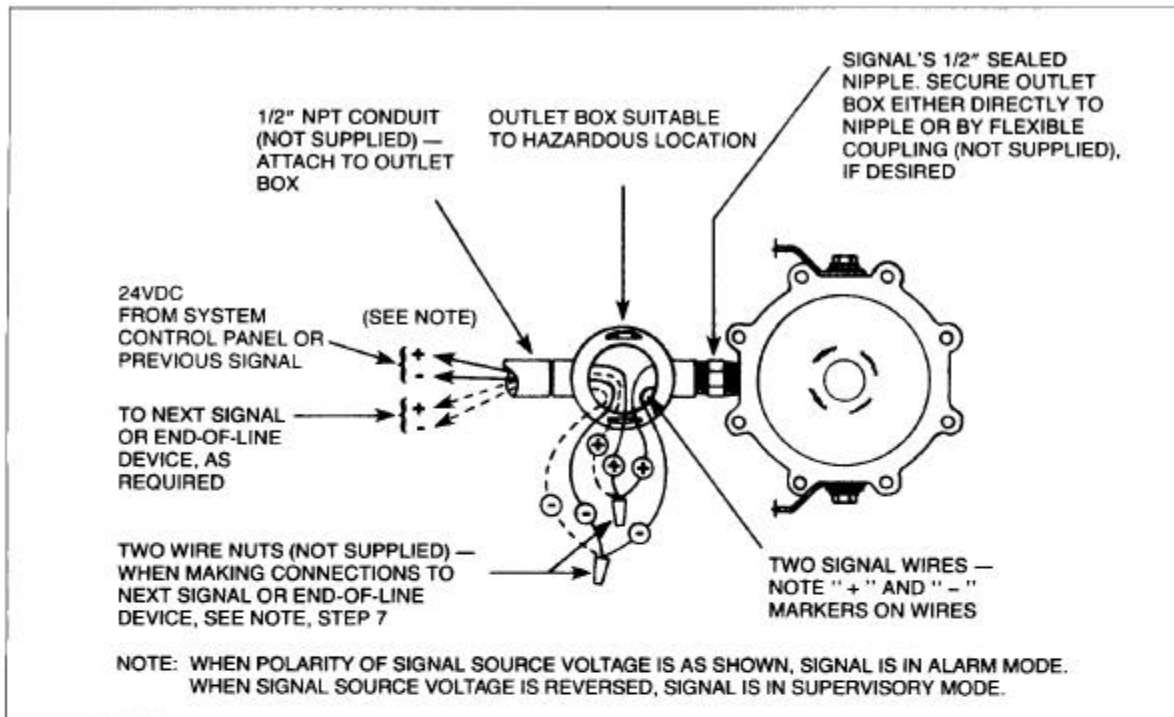

Figure 2. Wiring Installation and Connections
**6. Install Wires.** Refer to Figure 2. Remove cover from the conduit outlet box (not supplied). Note that the outlet box must be suitable for use in the hazardous location. Feed the two power supply wires from the system control panel or previous signal and the two wires to next signal or end-of-line device through a 1/2" NPT conduit (not supplied) into outlet box. Also, feed the two power connection wires from the horn or siren either directly into the outlet box or, if desired, through a 1/2" flexible type coupling (not supplied) and then into box. Secure outlet box to signal's sealed 1/2" nipple either directly or by flexible coupling, and secure conduit to outlet box.
**7. Connect Wires.** Refer to Figure 2. Make power supply wiring connections and make wiring connections to next signal or end-of-line device in outlet box. Observe polarity of signal wires.